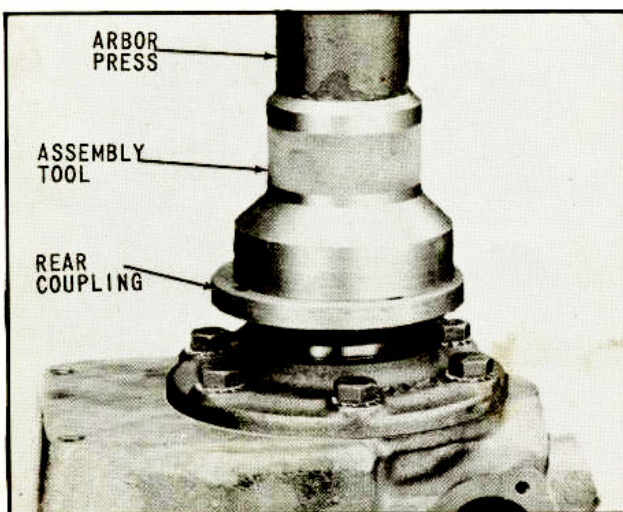

Fig. 27 Pressing Rear Coupling in Place
16. After lubricating the splined portion of coupling, assemble the splined coupling onto the externally splined portion of the output shaft. When the coupling has been aligned squarely on the output shaft and hand assembly has proceeded as far as possible, place a suitable tool on the coupling, (Fig. 27), and gently press the coupling with arbor